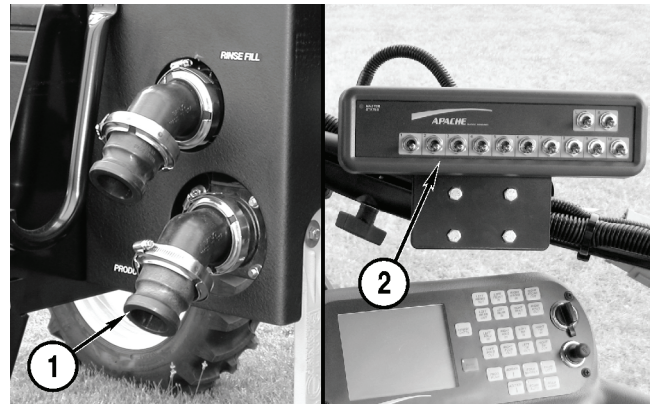

Figure 5-66
4. Connect a compressed air line to the main fill valve (**Figure 5-66, 1**). Apply compressed air at 40 psi (2.7 bar) to blow out the wet system and booms.
5. Cycle the boom section switches (**Figure 5-66, 2**) off and on several times to purge water from around the valves.